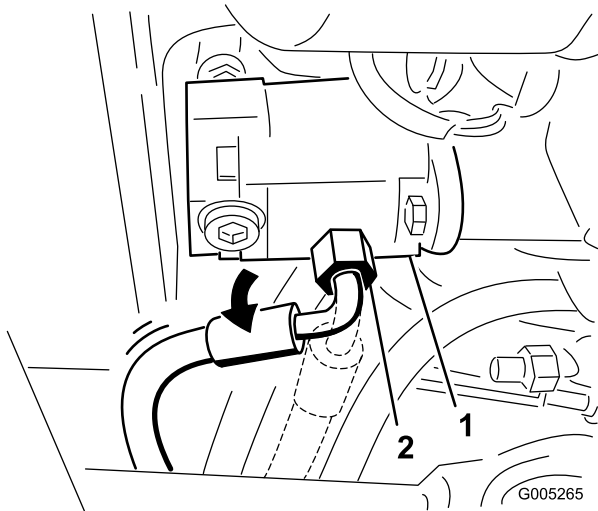

Figure 86
30. Loosen the pressure hose fitting at the pump and rotate the fitting 45 degrees toward the rear of the machine (Figure 86).
Note: Figure 86 is shown as viewed from under the traction unit.